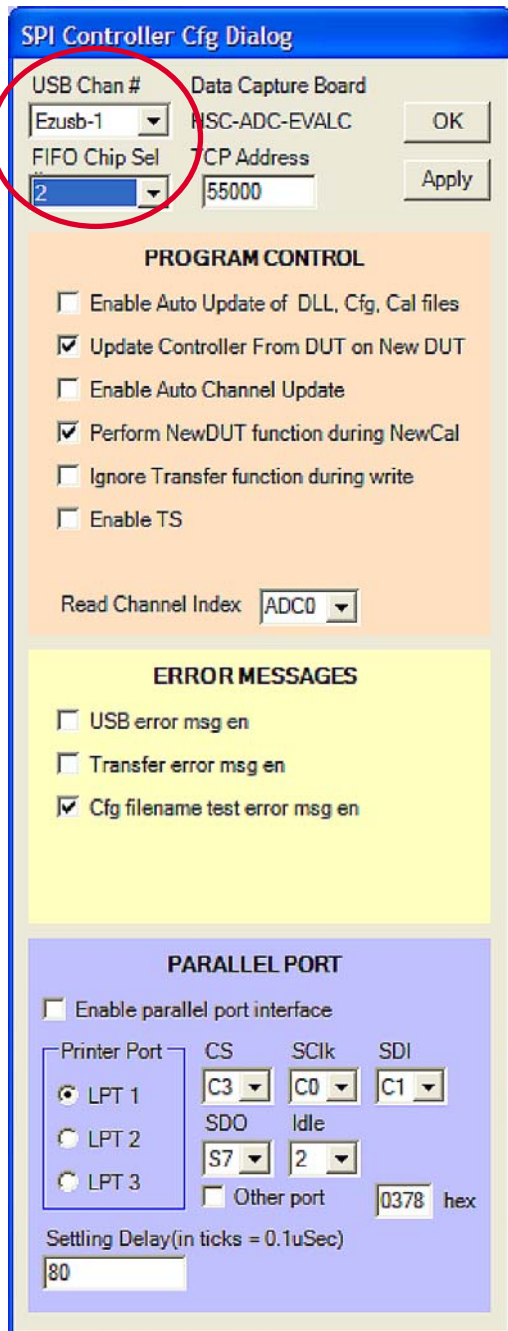

Figure 8.
3. Select **Config** and then **Controller Dialog** and make sure that **FIFO Chip Sel** is set to 2 and that **USB Chan #** is set to the same value as the AD9261 SPIController **Cfg** dialog (see Figure 8).